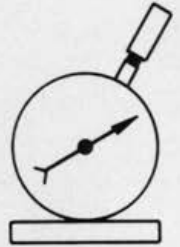

Figure 34
3. While gauge system is filling, continually jar the gauge gently on a soft surface. This forces the glycerine to displace air in the spring. Rotate the gauge a few times to the right and left as the glycerin is going in (See Figures 34 and 35). You will see air bubbles coming up.